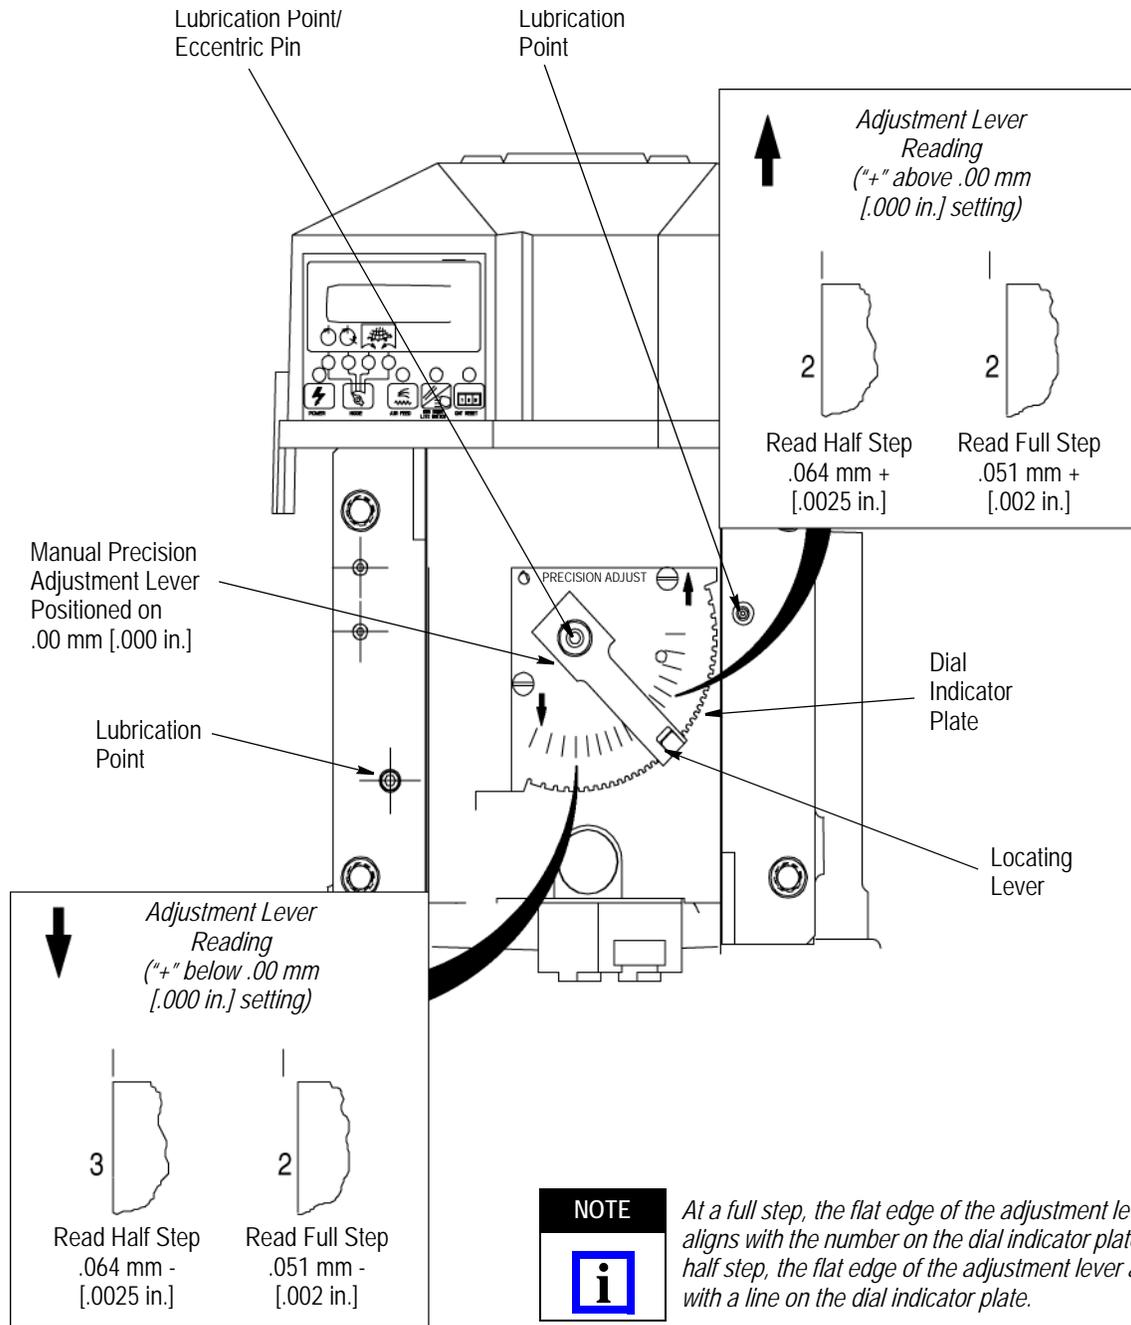

Figure 20
1. Adjust the manual precision adjustment lever to .051 mm [.002 in.] below the "0" setting. See Figure 20.
4. Reset the manual precision adjustment lever to "0" position. Refer to Figure 20.
1. Adjust the manual precision adjustment lever to "0" by tilting the locating lever toward the eccentric pin. See Figure 20.